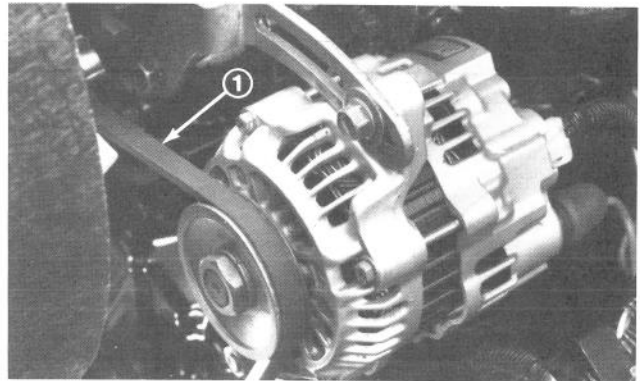

Figure 57
SERVICING ENGINE BELTS (Fig. 57 & 58)
Alternator Belt (Fig. 57)
3. Loosen bolt securing brace to engine and bolt securing alternator to brace (Fig. 57).